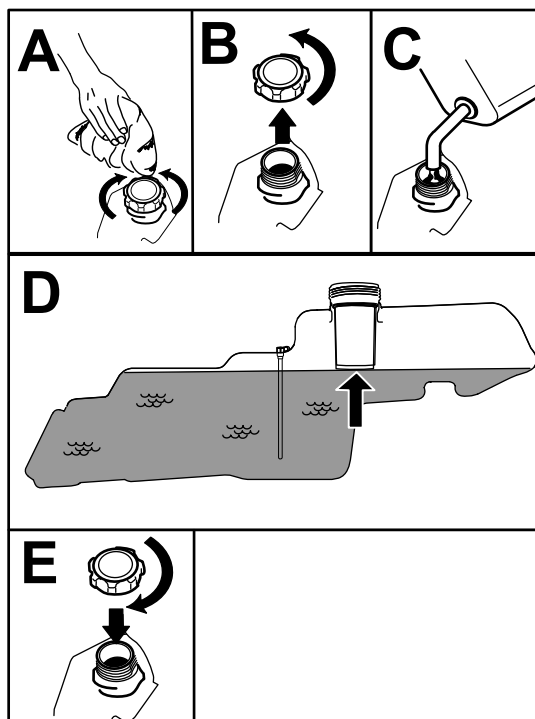

Figure 8
5. Fill the fuel tank to the bottom of the filler neck (Figure 8). Do not fill the fuel tank completely full.